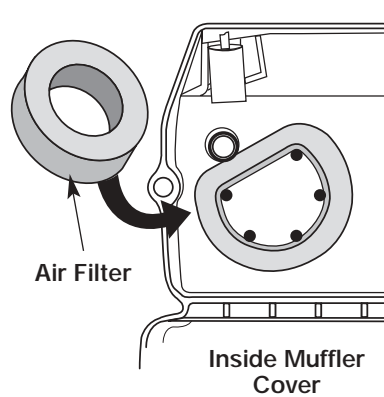

Fig. 61
2. Turn cover over and look inside to locate the air filter. Remove the air filter from inside the air filter/muffler cover (Fig. 61).
6. Replace the air filter inside the air filter/muffler cover (Fig. 61).